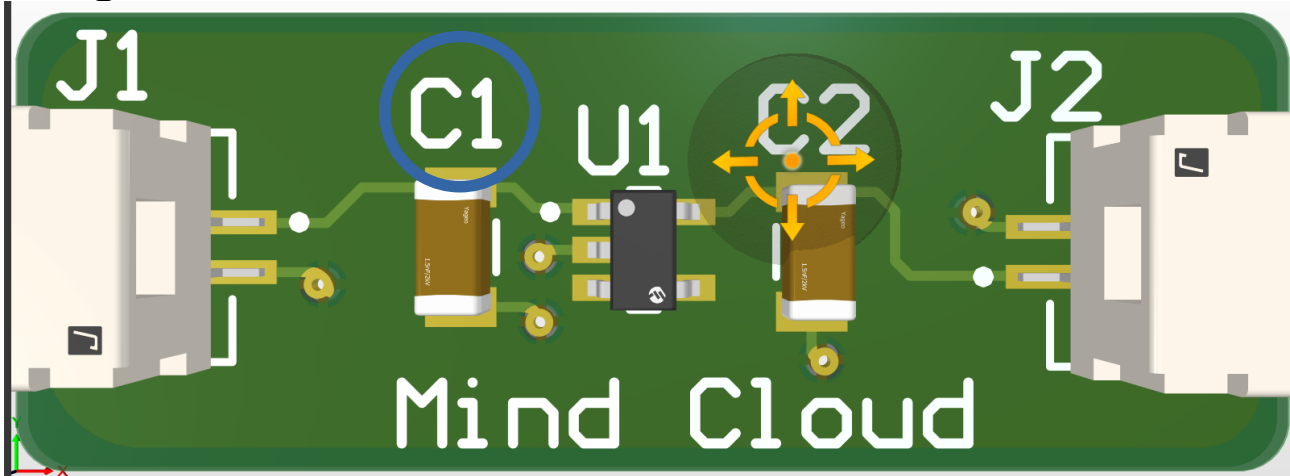

Figure 1.
*Designators* consist of two parts: the symbol of the component and a number that indicates the number of this component according to its group. For example, as you see in Figure 1, the designer uses two capacitors, and each of them has its own designator, “C1” and "C2". Two designators share the symbol but differ in the number.